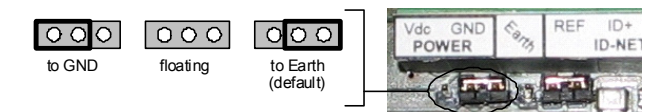

Figure 7 - Chassis Grounding
- Connect the reading device chassis to earth ground through the jumper, (default setting, see Figure 7).
The reading device chassis grounding method can be selected by positioning a jumper (see Figure 7). In this way the reading device chassis can be connected to earth ground (only if pin Earth is connected to a good earth ground). The reading device chassis can alternatively be connected to the power supply ground signal (GND) or it can be left floating but, in this case, the jumper must be removed.